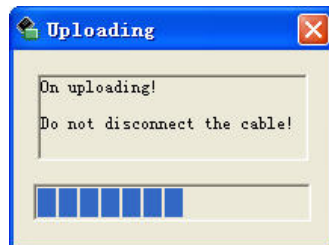

Figure 6-3: Upload Message Window
- Step 2: Click OK to read out data of target MCU. On the message window we can find the progress of upload (refer to Figure 6-3).